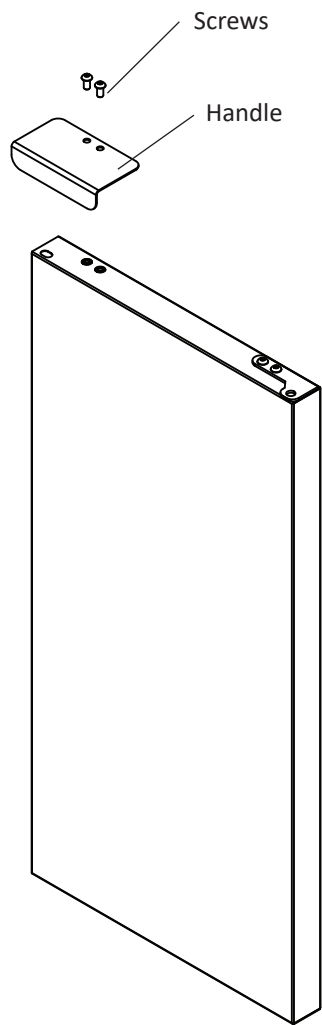

Figure 5
- 1. Remove the handle, (2) screws, and 5/32" hex key wrench from the bag shipped inside the cabinet.
- 2. Locate handle opposite the hinges and secure in place using the (2) screws and the hex key wrench. (See Figure 5).